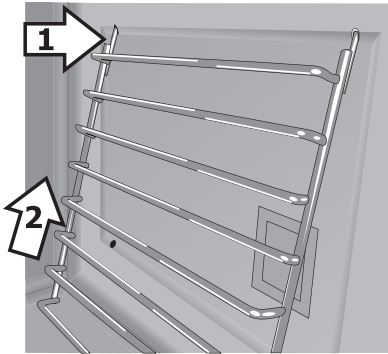

Figure 14: Ladder rack supports - top prongs
1. Hold the oven rack support at a slight angle and insert prongs into the holes at the top of the oven cavity (Figure 14).
2. Lift the rack into the top holes, aligning the bottom prongs with the bottom holes (Figure 14).